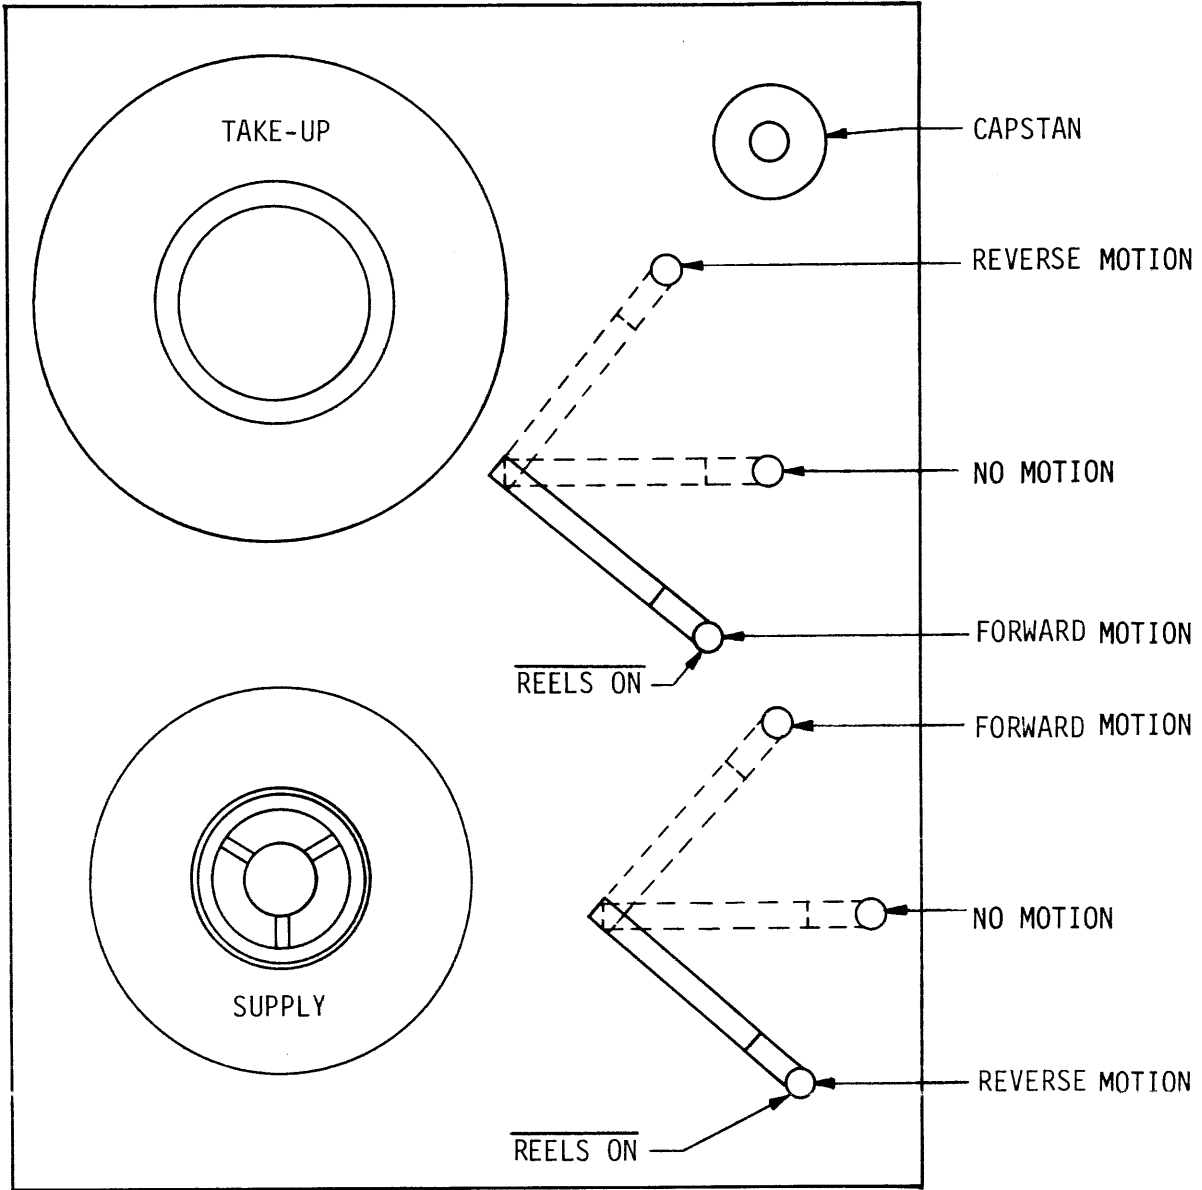

Figure 7-2, DESIRED ARM POSITIONS
7.4 REEL SERVO SYSTEM. The reel servo system controls the motion of the supply reel and the take-up reel in response to the movements of the tape-buffering tension arms. The magnetic tape is accelerated to synchronous speed by the capstan in a few milliseconds; but the reel motors require a much longer time than the capstan to reach synchronous speed, and therefore the tension arms must buffer the supply to tape. For the duration of each particular motion command the arms are moved by the reel servo's to an optimum position in order that the full arc of each arm is available when that motion is terminated. The desired position of each arm during the various operations is illustrated in figure 7-2.